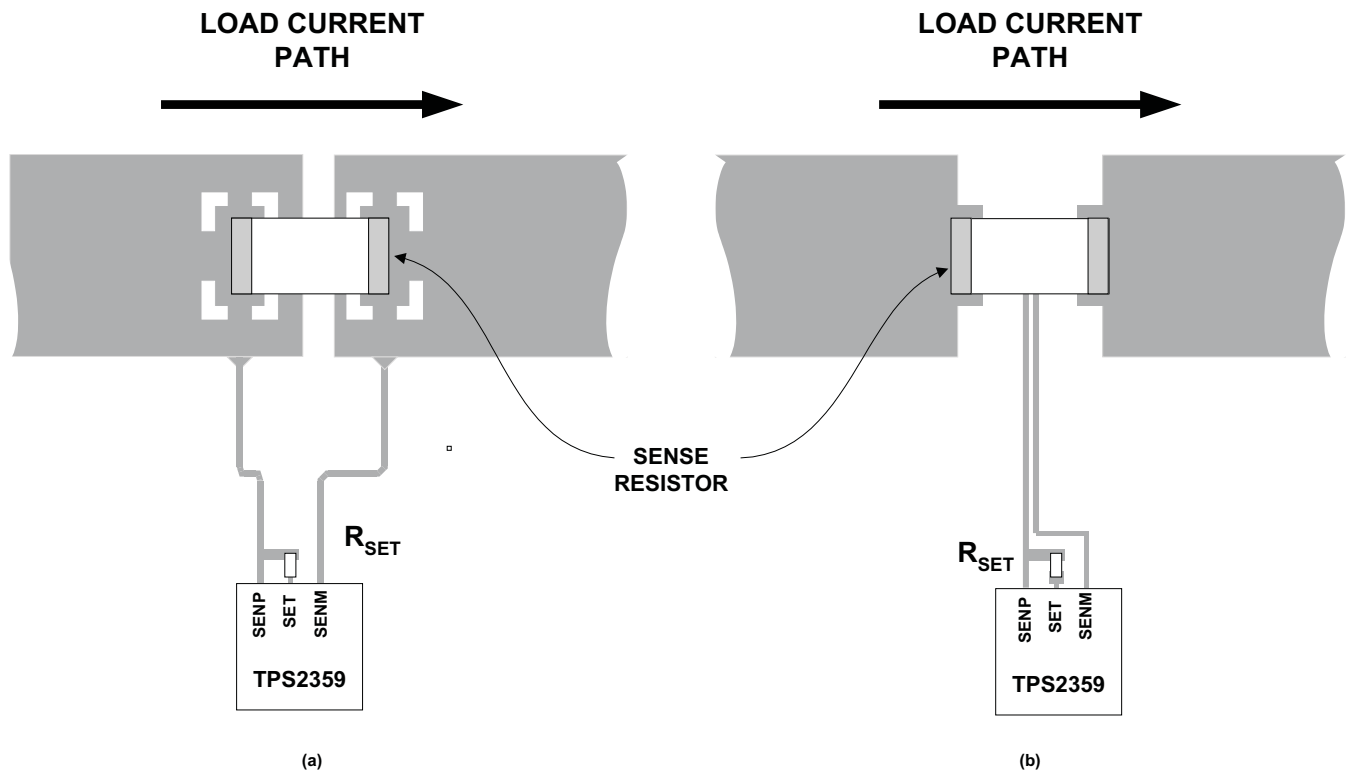

Figure 33. SENMx and SENPx Runs Side-by-Side to Maximize Common Mode Rejection
3. Minimize the loop area between the SENMx and SENPx leads by running them side-by-side. Use Kelvin connections at the points of contact with R_{SENSE} (Figure 33).